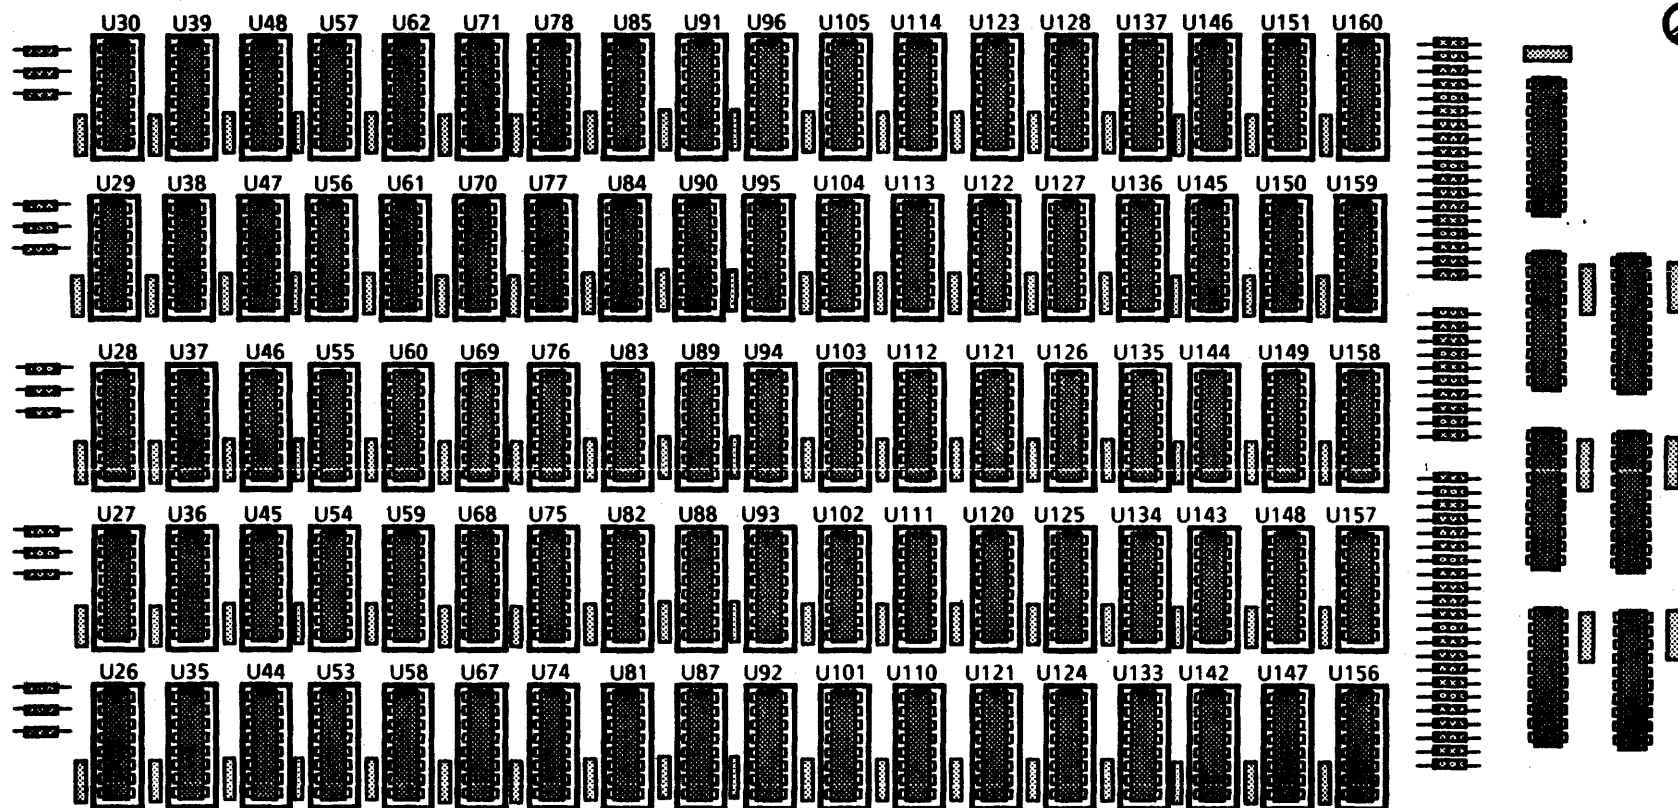

Figure 4.11 - MEB PWBA (shown fully loaded)
1. Determine where the memory chips will be installed. (Figure 4-11)